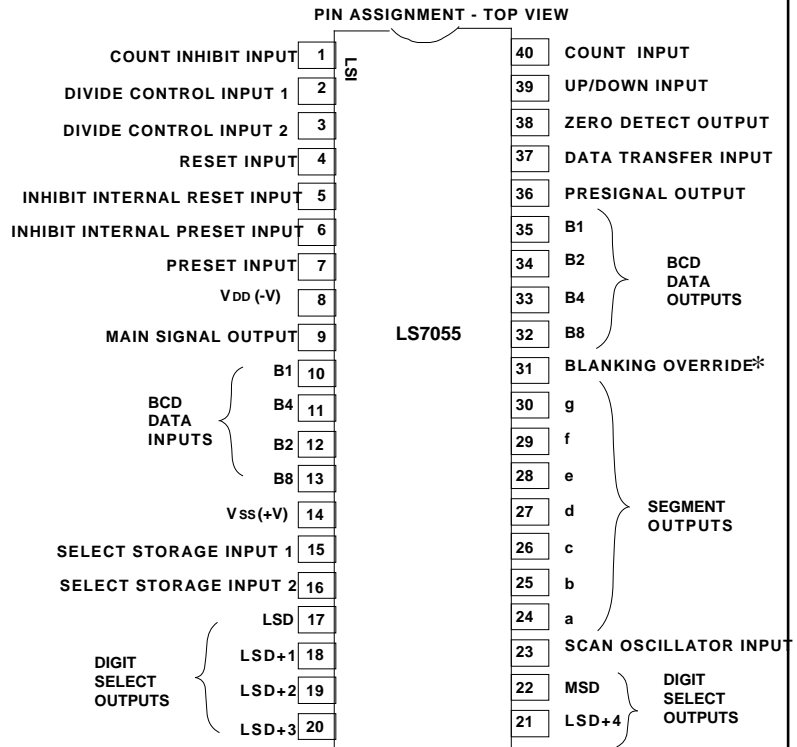

FIGURE 1
- LS7055, LS7056 (DIP) - See Figure 1